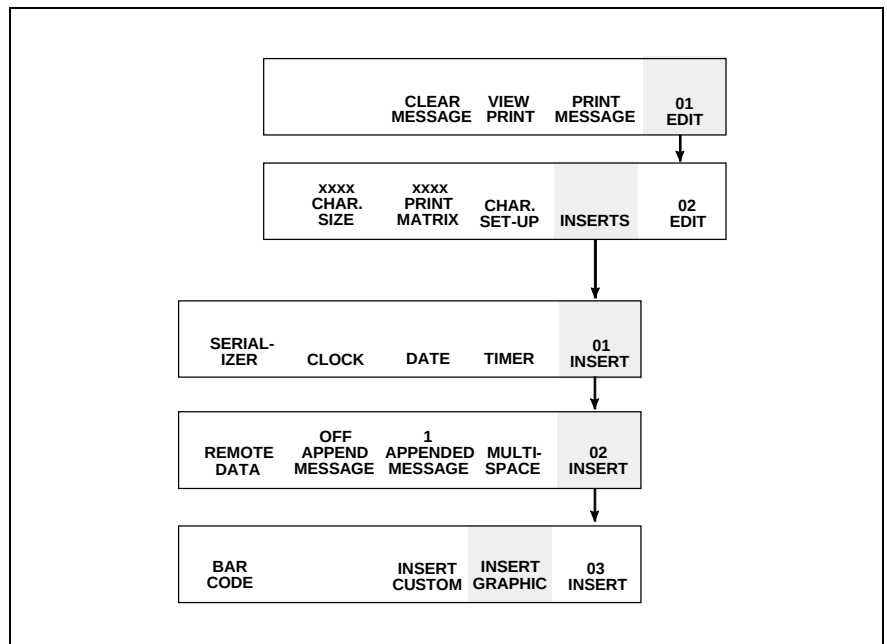

Figure 6-46. Accessing Frame <03 INSERT>
1. Begin in Frame <03 INSERT>. Refer to Figure 6-46.